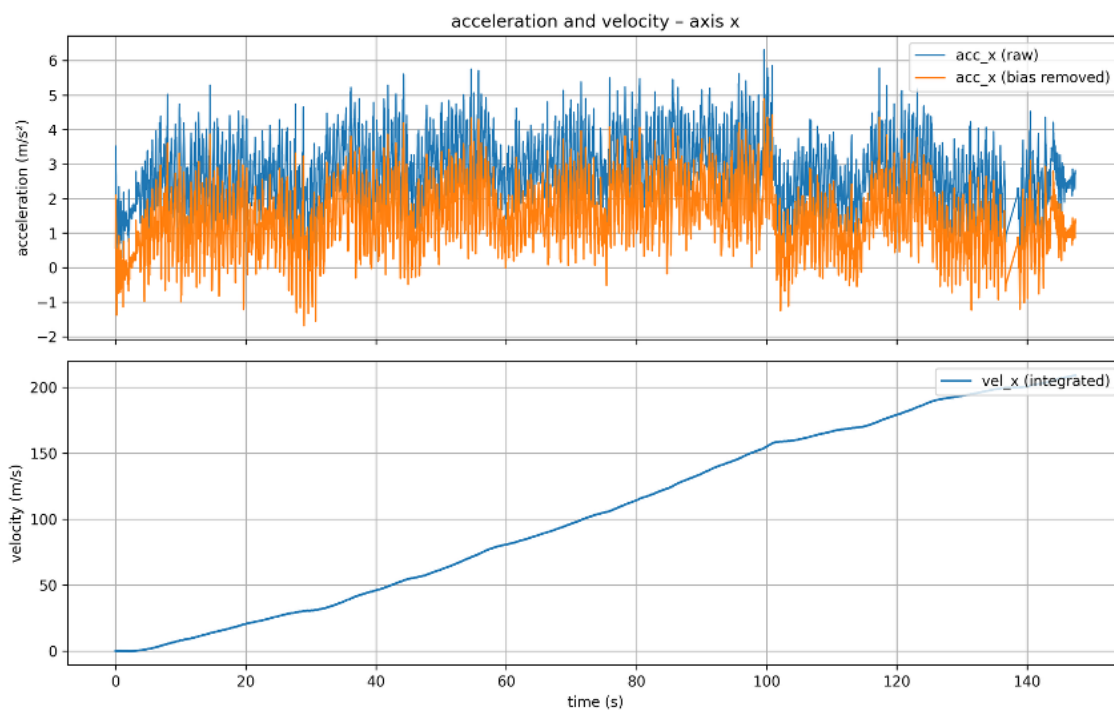

Figure 5: Acceleration and velocity in X-axis
**Task:** Plot acceleration in X and velocity in X (integrate once) vs. time as two subplots (Fig. 5).